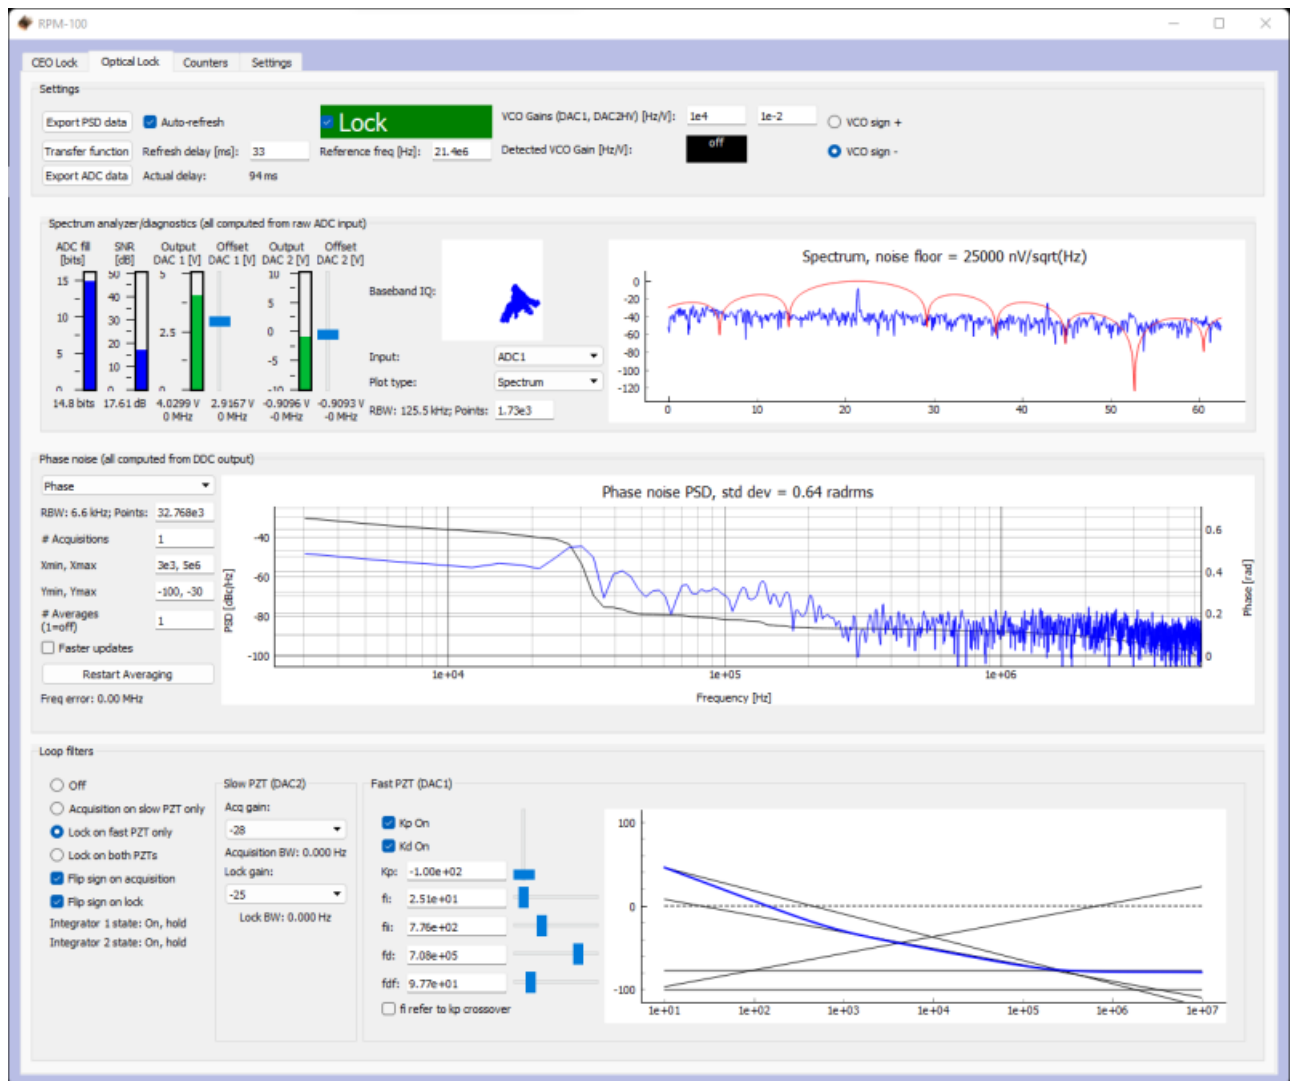

Fig. 8: Locking f_{opt}
- Press the "Lock" button (figure 8). If f_{opt} doesn't lock, change the VCO sign to the opposite polarity and try again. If the system continues to not lock, lower the K_p value.
- Adjust PID settings (bottom middle of figure 8) accordingly to lower the integrated phase noise of each parameter (f_{CEO} and f_{opt}). The default settings provided in the software are a good place to start but tweaking the values can often improve performance.